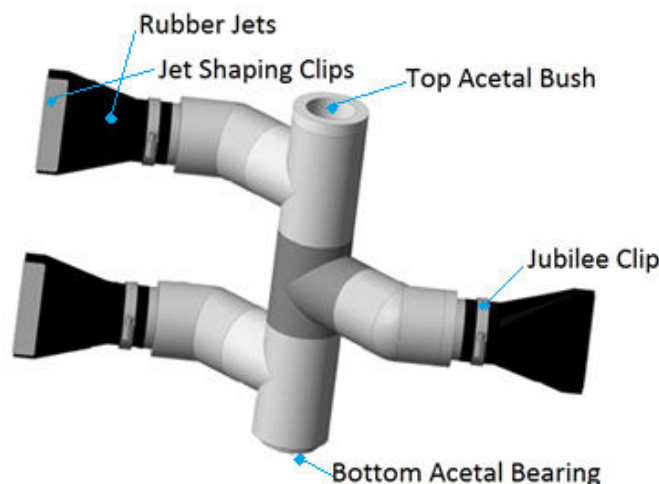

Figure 4
NB: The Jet Shaping Clip in the end of the Rubber Jet must be positioned as shown in Fig 4
V. Bearing replacement (see fig 4 for parts identification)